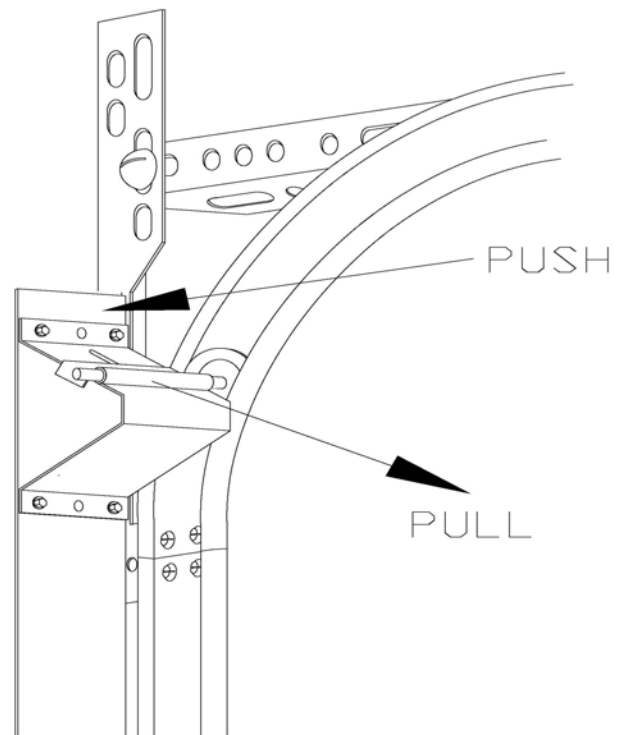

Figure 18
Step 17: Once the track is aligned and secured the top corner brackets can be installed. Loosen the bolt holding the slide on the top corner bracket. Insert a roller into the tube on the top corner bracket and slip the roller into the track at the radius. Position the top corner bracket as close to the top of the sections as possible while holding the top section tightly against the jamb. Once this location is established use four (4) silver "Tek" screws to attach the top bracket to the top sections. With both of the top corner brackets installed and the side loose, pull the roller and the slide on the top corner bracket toward you and push the section toward the jamb. Holding these parts in this position tighten the slide bolt. See figure 18.